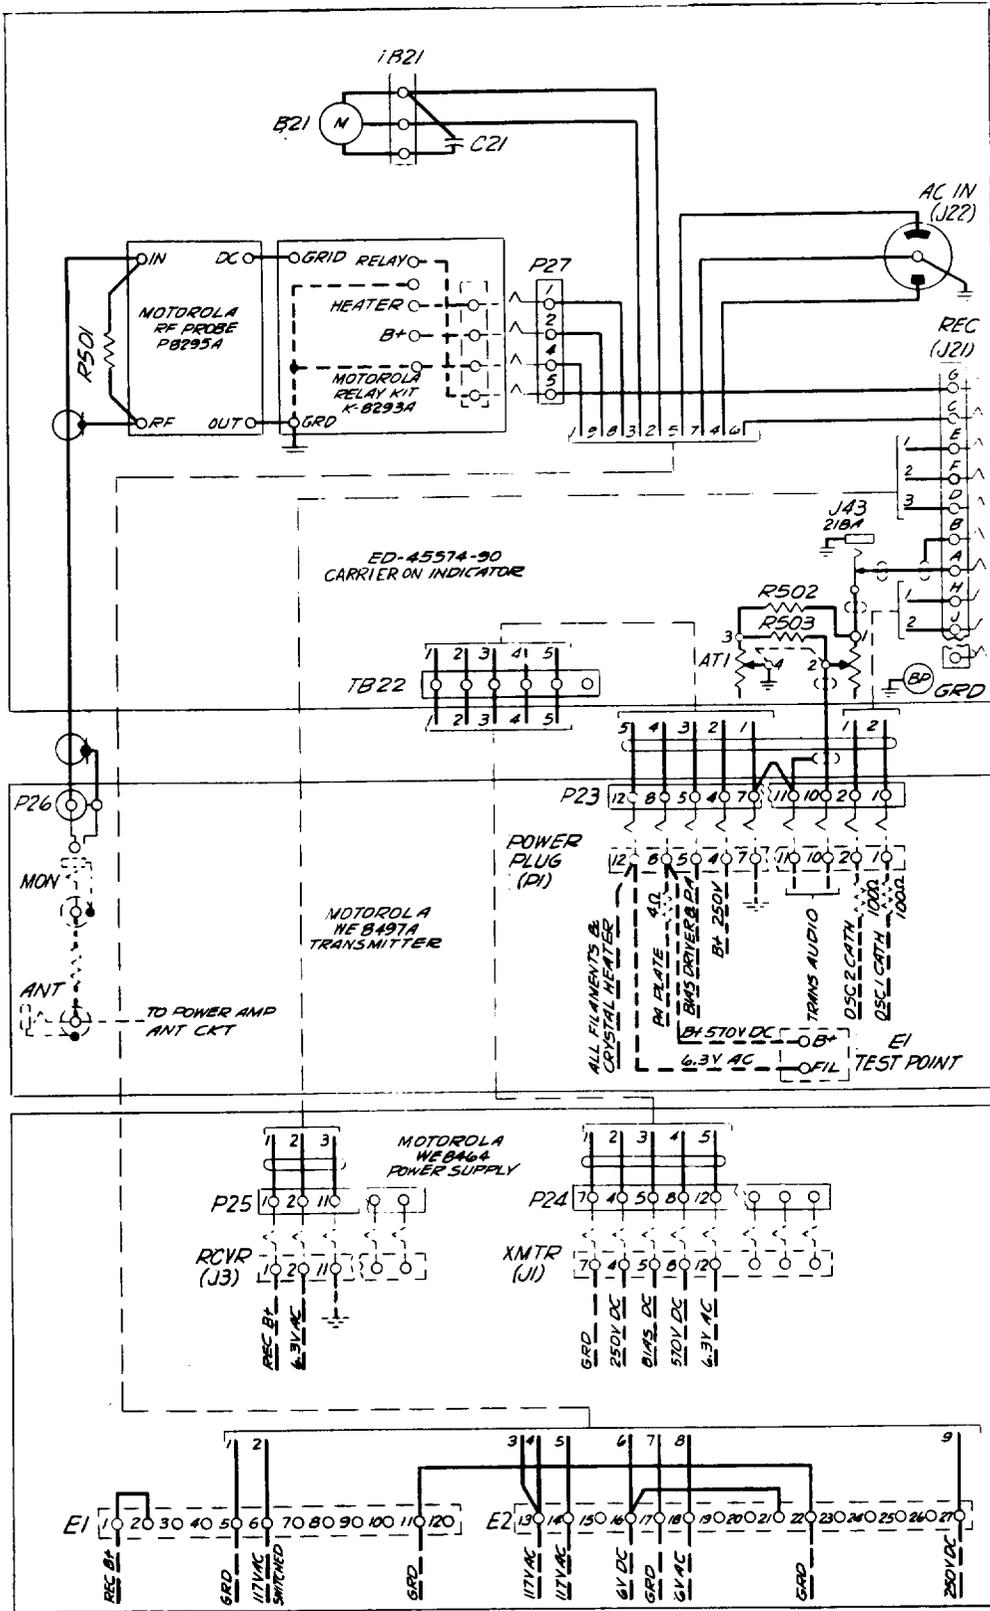

Fig. 1 - EC-T1 Radio Transmitter Circuit
**2.01** The EC-T1 radio transmitter is a phase modulated, crystal controlled transmitter designed to operate in the frequency range of 152 to 174 megacycles. In this application it is intended for use primarily in the range of 152 to 162 megacycles. Circuit arrangements of this unit are shown in Fig. 1.